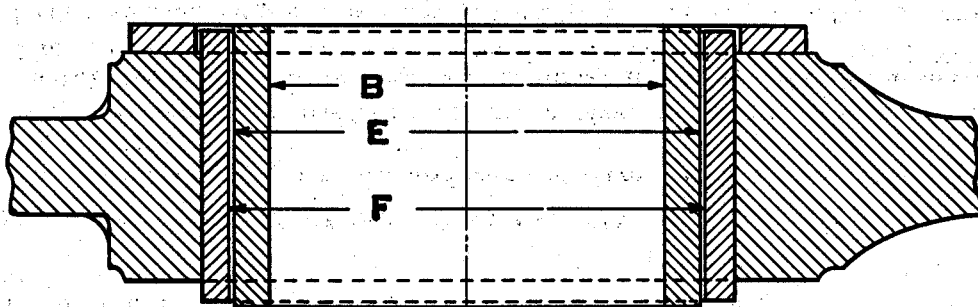

Fig. 2.
- (d) As diameter of main pin journal is decreased the internal diameter "B" of floating bronze bushing (Fig. 2) should be reduced to pin diameter plus .015" plus or minus .003."